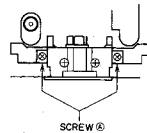
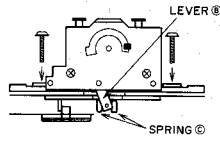

Fig. 3-3
Fig. 3-4
- 1) Remove two screws (A), then remove HEAD BLK.
- 2) When reassembling the HEAD BLK, be sure that the LEVER (B) is set into the SPRING (C) as shown Fig. 3-4, then secure two screws (A) as shown Fig. 3-3.